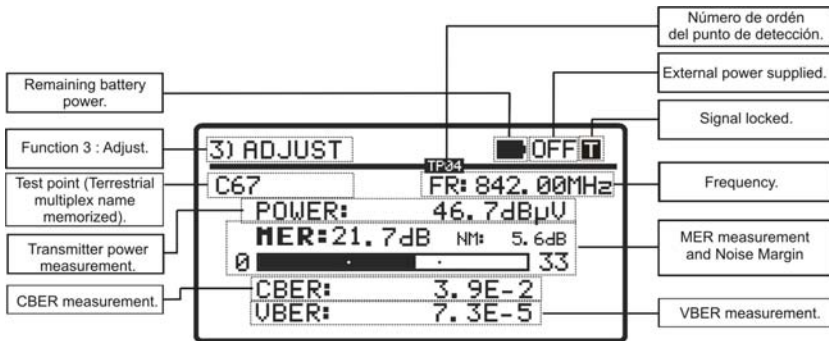

Figure 14.- ADJUST function.
- 3.- Measurements are shown on the screen in a graphical and alphanumerical way (see figure 14). The unit of measure of the power average is configurable by software. It can be selected among $\text{dB}\mu\text{V}$, dBmV ó dBm .